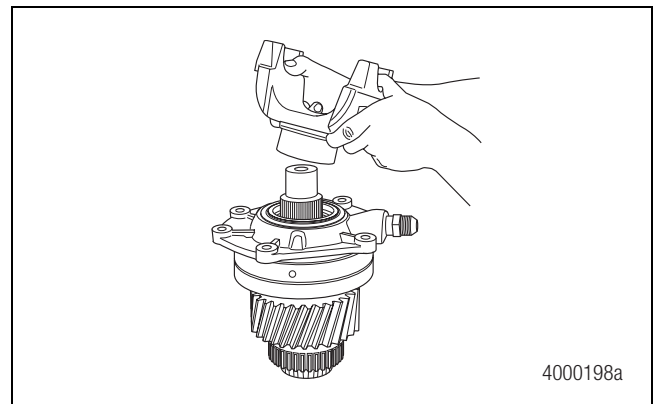

Figure 6
- Remove the entire input shaft subassembly. Use a dead-blow hammer on the backside of the input shaft to loosen it further. Set up the shaft vertically on the workbench. Figure 6.
- Use a two-jaw puller to remove the yoke. Figure 6.